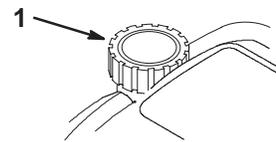

Figure 7
2. Clean around the fuel tank cap (Fig. 7).